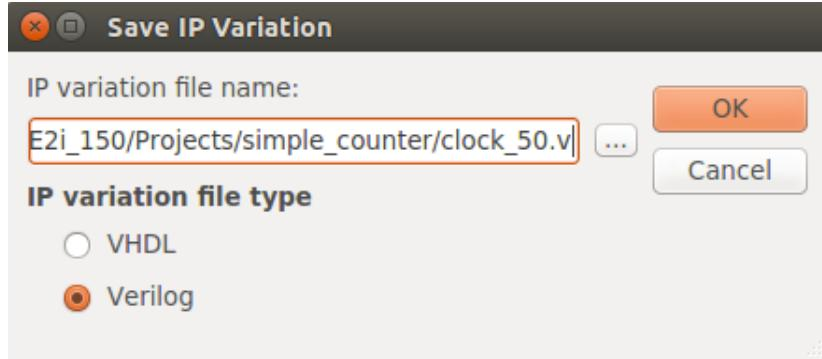

fig 3.1.7
23. Choose Basic Functions -> Clocks; PLLS and Resets -> PLL -> ALTPLL. Give name **clock_50.v** for the IP Variation file name. See fig 3.1.7